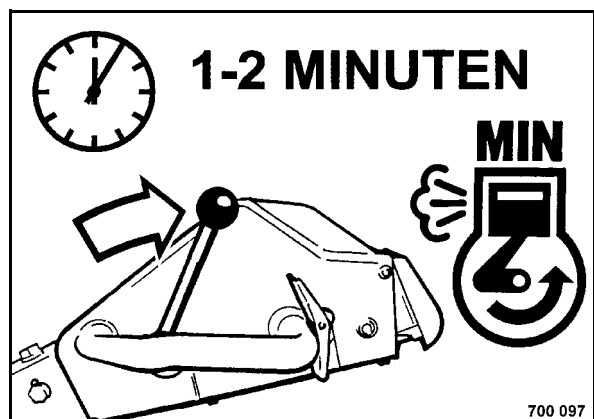

Fig. 20
- After starting take the throttle lever back to position "MIN" (Fig. 20).